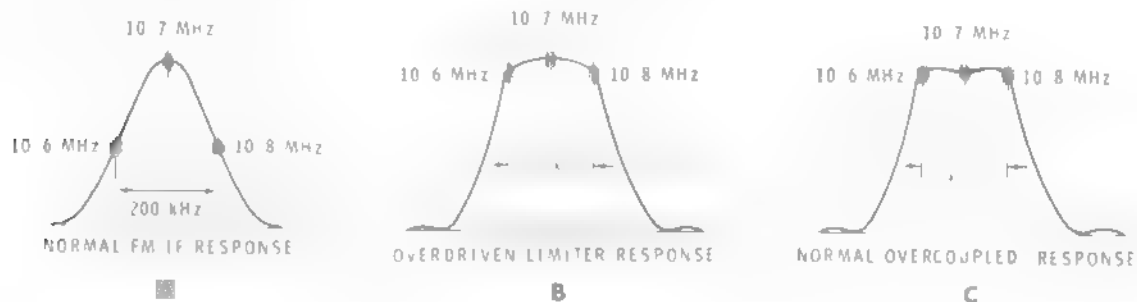

Figure 17
- () Adjust the IF coils for the correct response as shown in Figure 17.